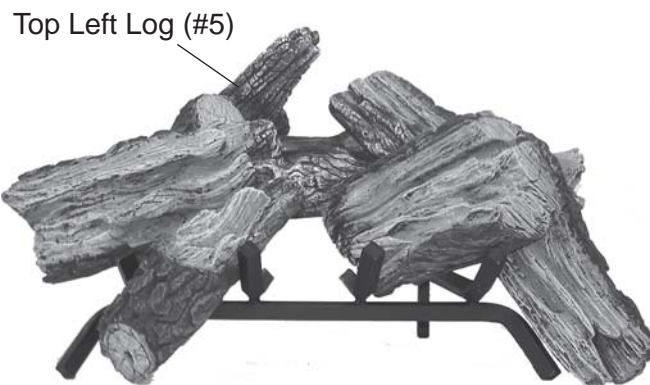

Figure 127 - Placing Top Left Log (#5) behind Rear Log
6. Place Top Left Log #5 behind Rear Log #1 on the notch on rear left of grate stand. *See Figure 127.*